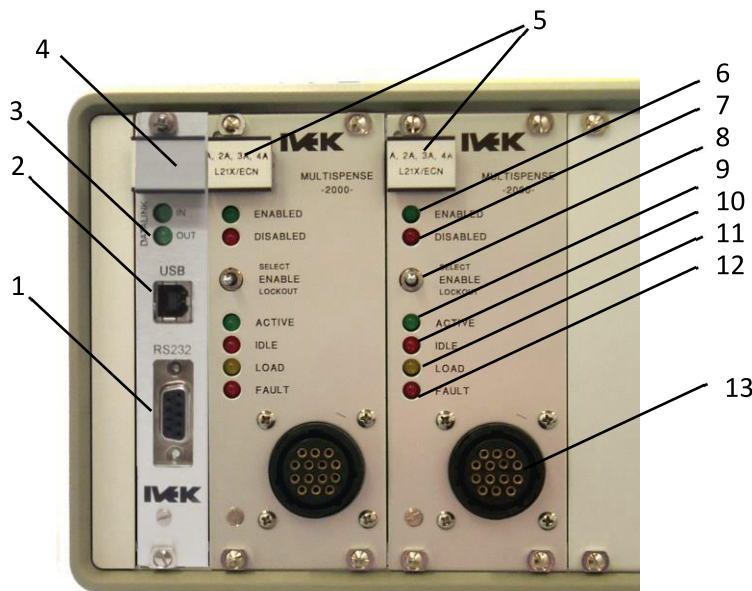

Figure 3.1 Multispense 2000 Style B Controller Module Front Panel
3.1.1 Front Panel Controls & Indicators (Figure 3.1)
3.1.1.1 Master Plug-In (Figure 3.1 Item 4)
3.1.1.2 Channel Plug-In (Figure 3.1 Item 5)